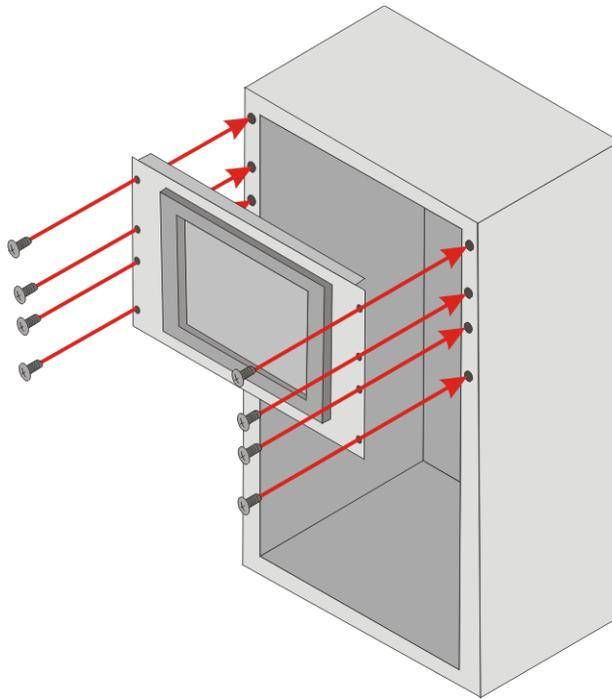

Figure 4-32: Install into a Rack/Cabinet
- Step 4:** Slide the PPC-3708A-N270 flat panel PC with the attached rack/cabinet bracket into a rack or cabinet (Figure 4-32).
Step 5: Once the flat panel PC with the attached rack/cabinet bracket has been properly inserted into the rack or cabinet, secure the front of the rack/cabinet bracket to the front of the rack or cabinet (**Figure 4-32**).